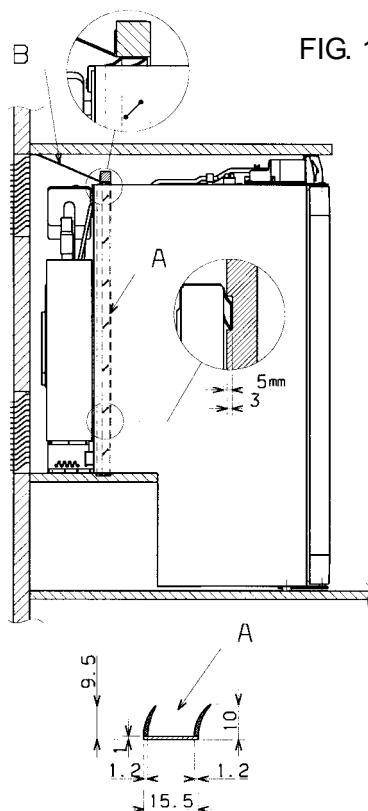

FIG. 1
In addition, discharge plate (B) with its lipped seal (A) must seal the refrigerator off from the living area (see FIG. 1).